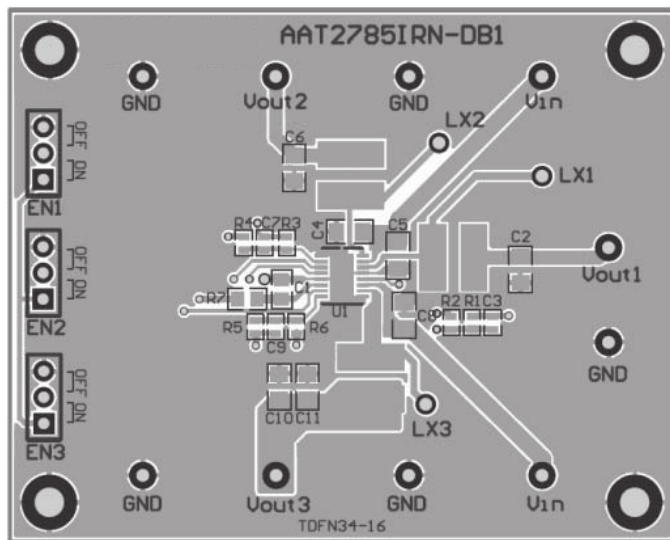

Figure 2: AAT2785 Evaluation Board Component Side Layout.
The term $\frac{V_o}{V_{IN}} \cdot \left(1 - \frac{V_o}{V_{IN}}\right)$ appears in both the input voltage ripple and input capacitor RMS current equations and is at a maximum when V_o is twice V_{IN} . This is why the input voltage ripple and the input capacitor RMS current ripple are a maximum at 50% duty cycle. The input capacitor provides a low impedance loop for the edges of pulsed current drawn by the AAT2785. Low ESR/ESL X7R and X5R ceramic capacitors are ideal for this function. To minimize stray inductance, the capacitor should be placed as closely as possible to the IC. This keeps the high frequency content of the input current localized, minimizing EMI and input voltage ripple. The proper placement of the input capacitor (C_1) can be seen in the evaluation board layout in the Layout section of this datasheet (see Figure 2). A laboratory test set-up typically consists of two long wires running from the bench power supply to the evaluation board input voltage pins. The inductance of these wires, along with the low-ESR ceramic input capacitor, can create a high Q network that may affect converter performance. This problem often becomes apparent in the form of excessive ringing in the output voltage during load transients. Errors in the loop phase and gain measurements can also result. Since the inductance of a short PCB trace feeding the input voltage is significantly lower than the power leads from the bench power supply, most applications do not exhibit this problem. In applications where the input power source lead inductance cannot be reduced to a level that does not affect the converter performance, a high ESR tantalum or
The suggested PCB layout for the AAT2785 is shown in Figures 2 and 3. The following guidelines should be used to help ensure a proper layout.
1. The power input capacitors (C5 and C8) should be connected as closely as possible to VP1_2, VP3 and PGND1,2,3 as shown in Figure 2. Due to the pin placement of VP1_2 and VP3 for all converters, proper decoupling is not possible with just one input capacitor.